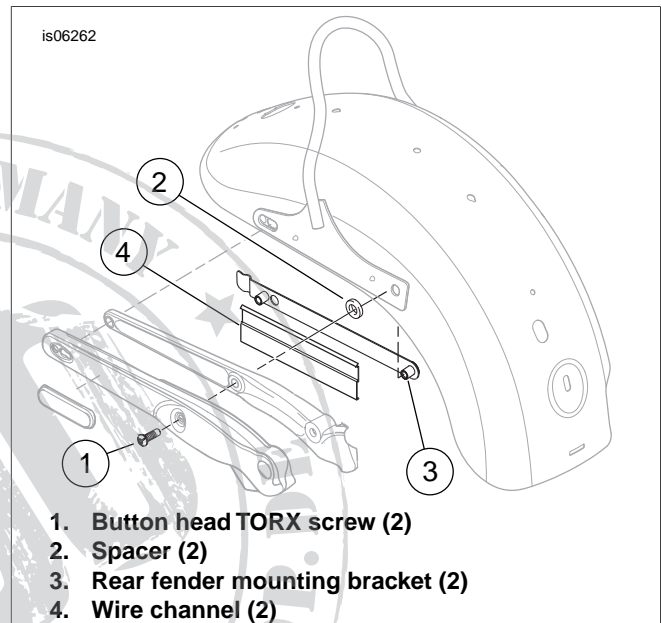

Figure 6. Rear Fender (FXDWG)
1. See Figure 6. **On one side of the vehicle**, remove and discard the TORX® screw (1) retaining the fender support cover, spacer (2), sissy bar, rear fender and mounting bracket (3) to the fender support. Remove the long screw loosely inserted earlier to hold the rear of the fender in position.
- See Figure 6. Route the wiring forward behind the wire channels (4) on each side of the vehicle, and through the wiring hole in the fender to the STT module in the area under the seat.